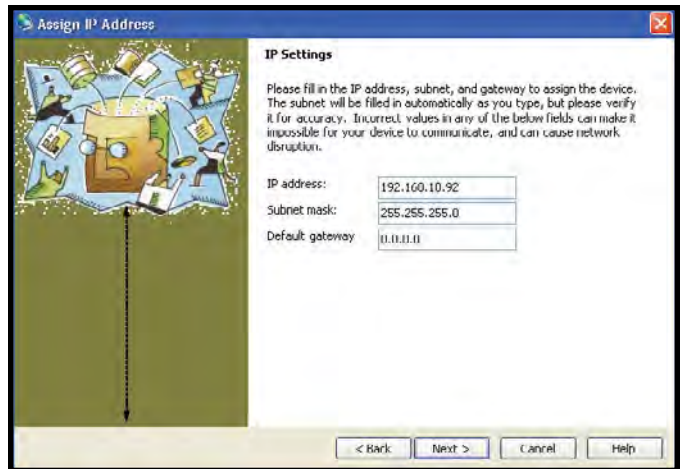

Figure 8. Assign IP Address, IP Settings window
8. Enter the IP address and Subnet mask. The Default gateway is optional. Click "Next >" when complete (see Figure 8).